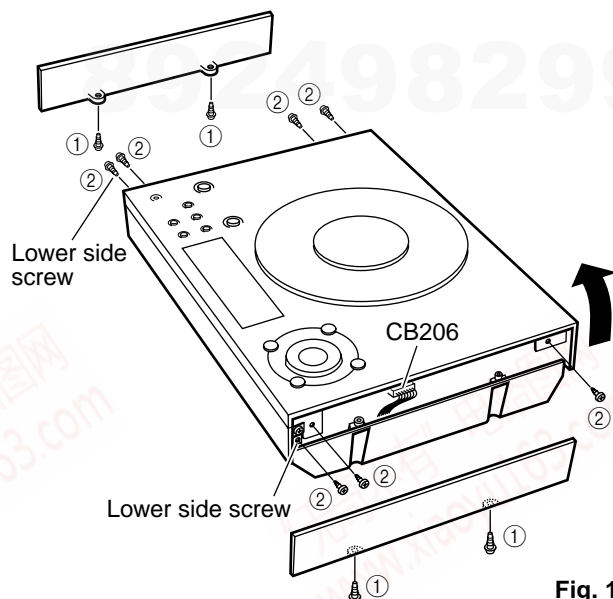
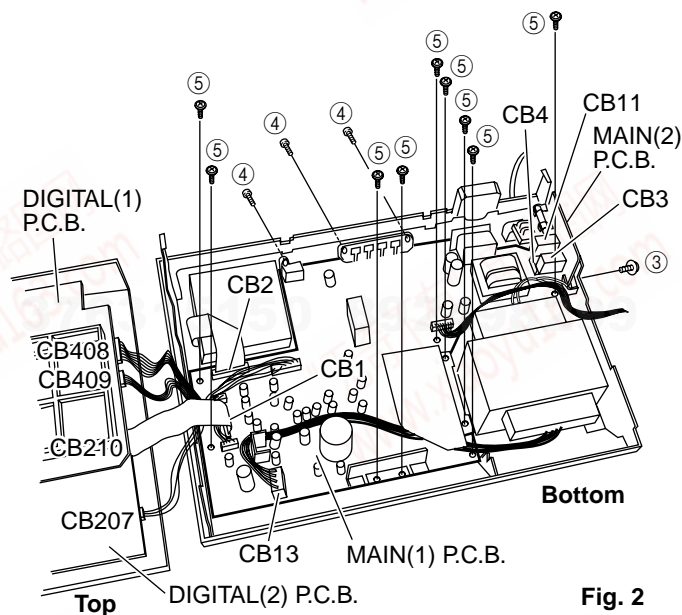

Fig. 1
Fig. 2
- Remove 4 screws (①) to remove the side panels. (Fig. 1)
- Remove 7 screws (②).
- Remove 1 screw (③), shift the MAIN P.C.B (2) upward and then remove the connector (CB4). (Fig. 2)
- Remove 3 screws (④).
- Remove 9 screws (⑤). The MAIN P.C.B. (1) and MAIN P.C.B. (2) can then be removed. (Fig. 2)